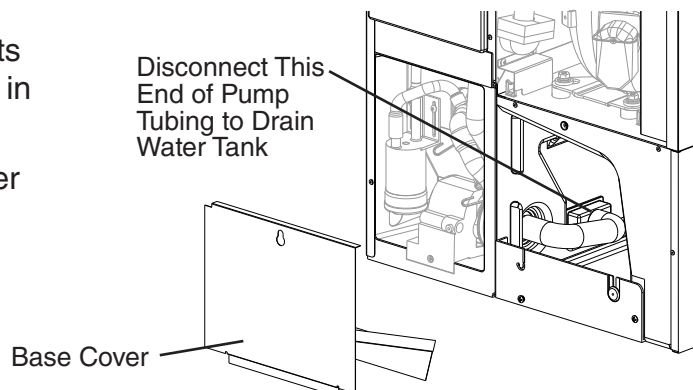

Fig. 18
- 7) Remove the base cover, then disconnect one end of the pump tubing to drain the water tank. See Fig. 18.
- 4) Remove the base cover, then disconnect the water pump hose. See Fig. 18. After the water tank has drained, reconnect the water pump hose. Do not replace the base cover at this time.
- 3) Remove the base cover, then disconnect one end of the pump tubing to drain the water tank. See Fig. 18. After the water tank has drained, reconnect the pump tubing.